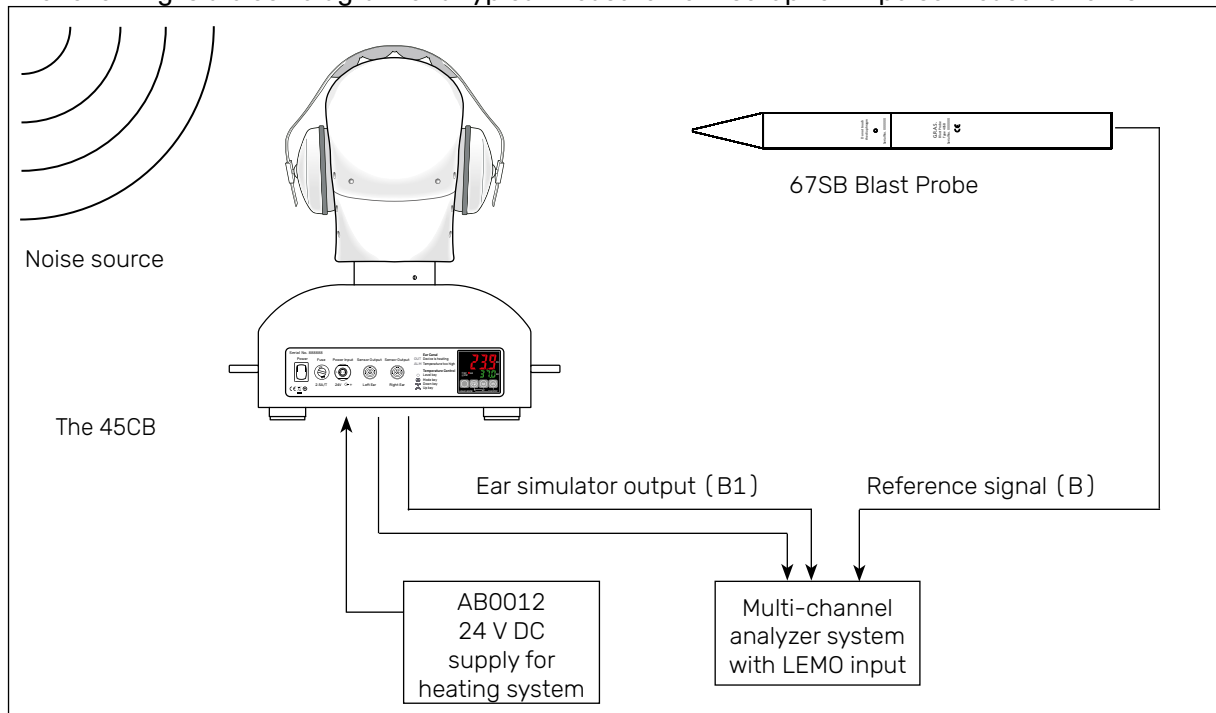

Fig. 10. Block diagram of a typical setup for the 45CB with the blast probe 67SB providing the reference signal for an earmuff test on the 45CB.
- The impulse for the measurements is generated by a blast tube or an explosive device. (This is indicated by "noise source" in Fig. 10).